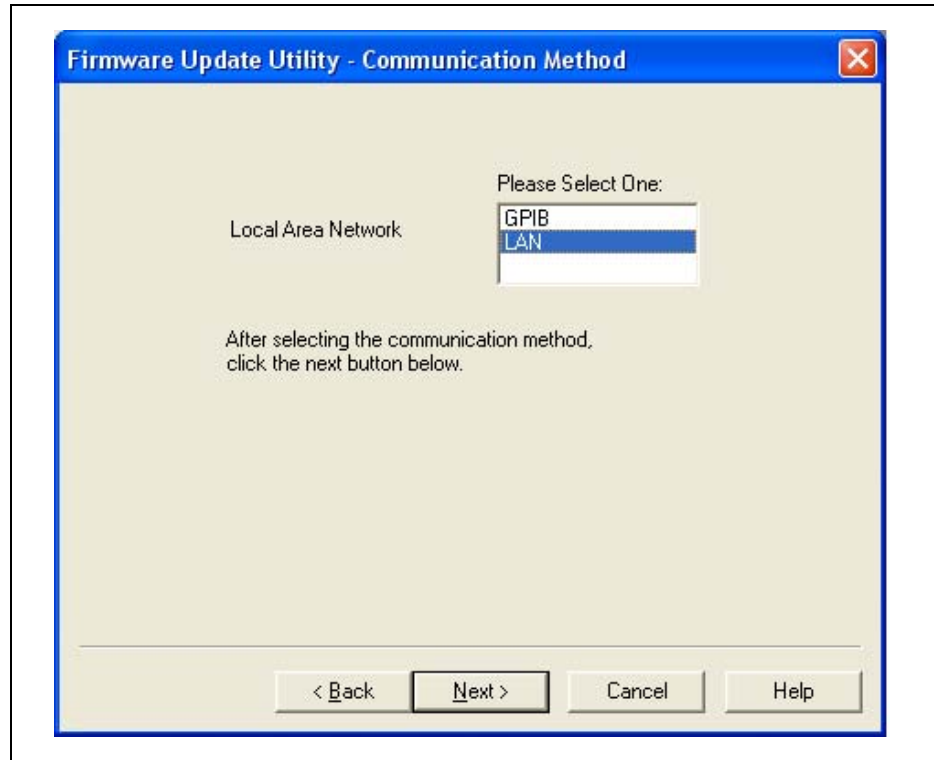

Figure 2-23. Selecting the Instrument Interface.
3. Select the I/O interface to be used to upgrade the instrument firmware and then select 'Next' (Figure 2-23).
4. If the LAN interface is selected (Figure 2-23), enter the instrument host name or IP address and click 'Update'. If the GPIB interface is used, select the instrument's GPIB address.